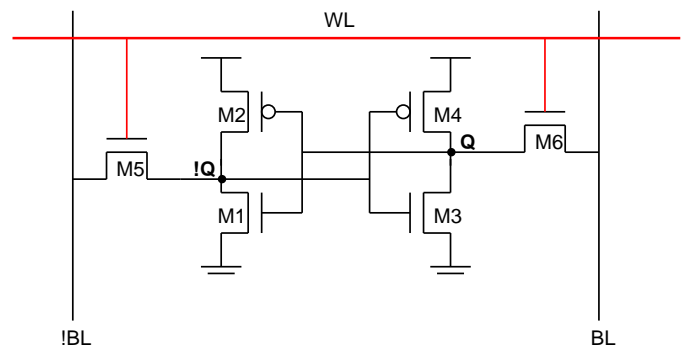

Fig. 13
13. Consider the 6T SRAM cell in Fig. 13. (5%)